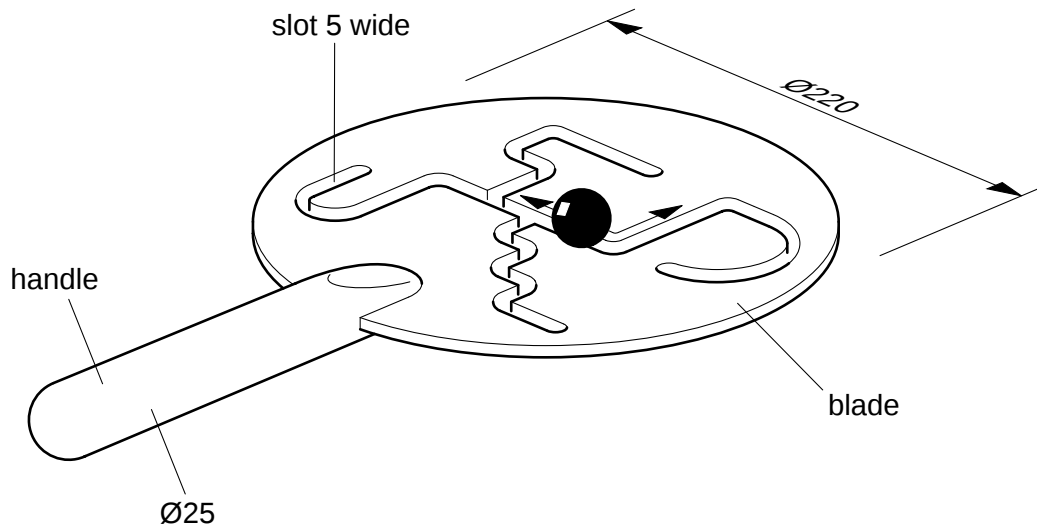

Fig. 10
- 18 Fig. 10 shows an idea for a 'hand paddle' to be used by handicapped people to develop fine motor skills.